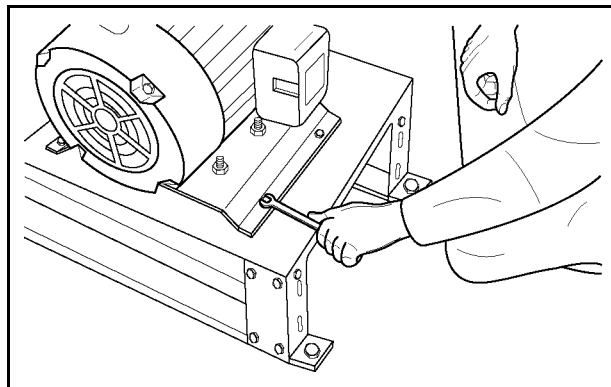

Figure 7B
3. Check the motor name plate for the correct motor frame size. Remove the hardware shipped in the Motor Mounting Plate. Locate the motor on the mounting plate using the hole pattern, which aligns with the motor base. Bolt the motor securely to the mounting plate with the supplied hardware that was previously removed. Loosen the (4) 1/2" flange head bolts, which secure the motor Mounting Plate to the blower base. (See Figure 7B).